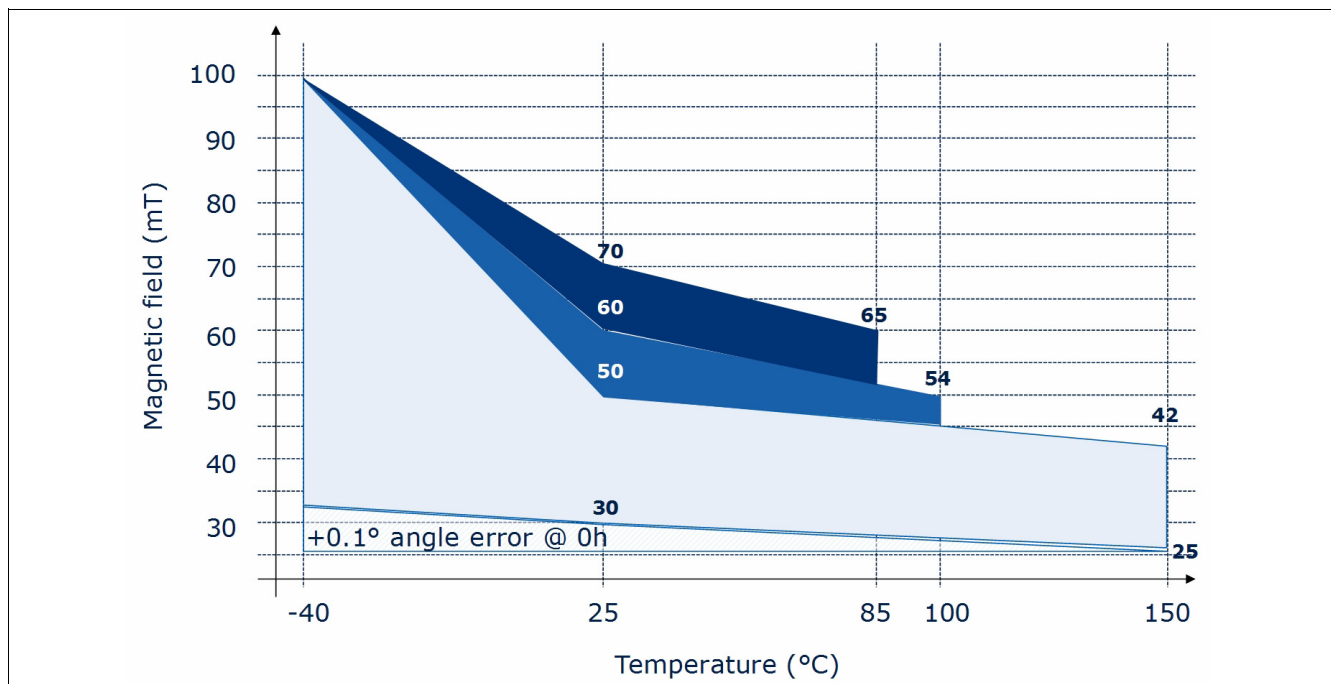

Figure 14 Allowed magnetic field range as function of junction temperature.
3) See Figure 14.
The field strength of a magnet can be selected within the colored area of Figure 14. By limitation of the junction temperature, a higher magnetic field can be applied. In case of a maximum temperature $T_j = 100^\circ\text{C}$, a magnet with up to 60 mT at $T_j = 25^\circ\text{C}$ is allowed.